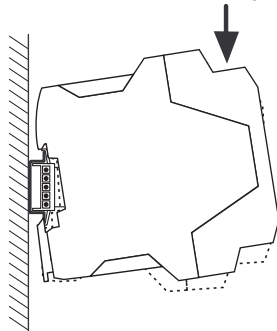

Figure 3-10 Attaching the PSR-TRISAFE-M safety module to the DIN rail
3. Place the module onto the DIN rail from above as shown in Figure 3-10 so that the upper holding keyway of the module hooks onto the top edge of the DIN rail. When using PSR DIN rail connectors, make sure that the contact opening in the base of the module is aligned correctly over the contact block of the PSR DIN rail connector.